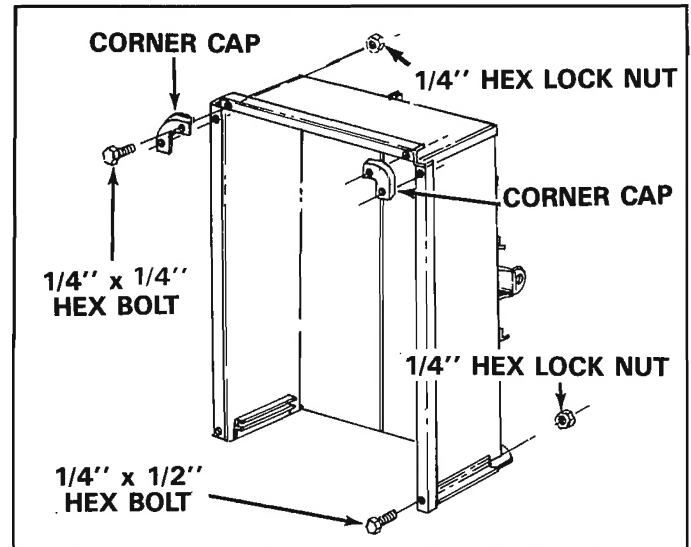

FIGURE 8
13. Assemble two front top corner caps and two bolts in top flanges through tailgate reinforcement bracket using 1/4" x 1/2" hex bolts and 1/4" hex lock nuts. See figure 8. Tighten all bolts.